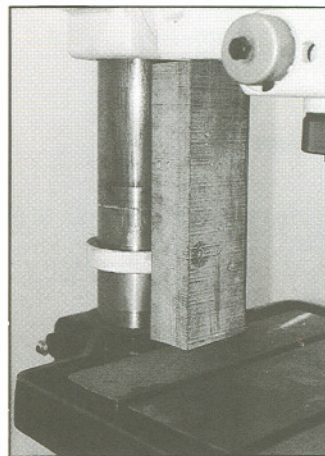

Fig. 4
2. Lower the table until there is room to place a block of wood between the table and the head assembly (Fig. 4).